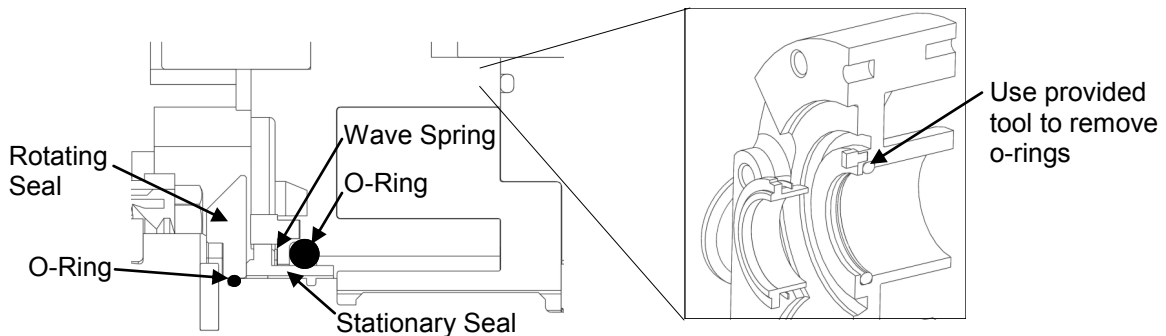

Figure 33: Single Mechanical Seal Disassembly
*Disassembly:* The single mechanical seal option consists of two mechanical seal sets (Rotating seal and stationary seal), two wave springs and four o-rings (Figure 33). Remove the stationary seals from the back of the body and inspect for chipping, scratches or any evidence of cracks on the seal face. Remove the body o-rings using the tool provided by Ampco (discard o-rings). Remove the rotating seals from shafts and inspect for damage. If any of the seals are damaged do not re-use them. Remove shaft o-rings and discard.